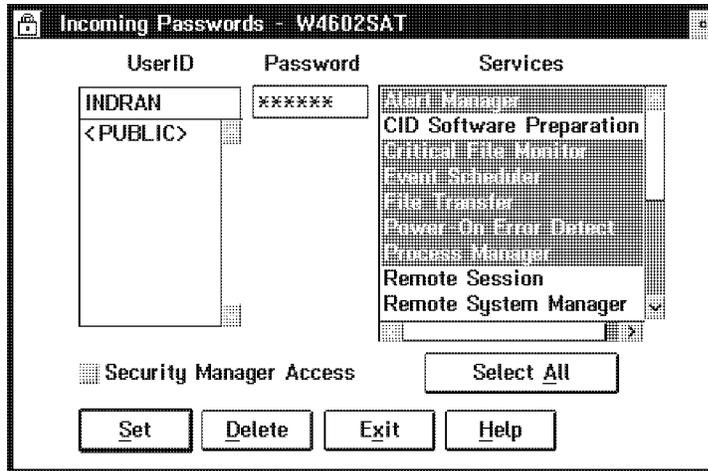

Figure 32. Incoming User ID / Password Configuration
2. Select **Edit/Display Incoming passwords**. Figure 32 on page 41 will be displayed.
In Figure 32, the User ID *INDRAN* is being created with access to the highlighted services and with no access to the Security Manager.